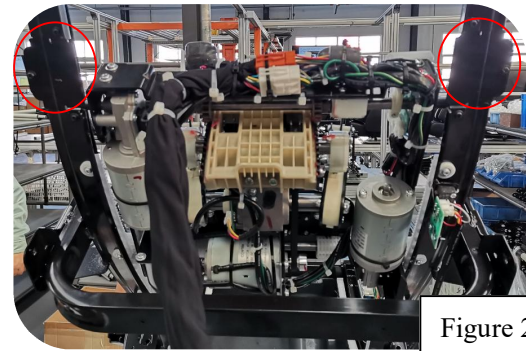

Figure 2
1.2 As shown in Figure 2, use a Phillips Screwdriver to remove 6 pieces of 4\*10 Phillips S-Type Head Self-Tapping Screws.